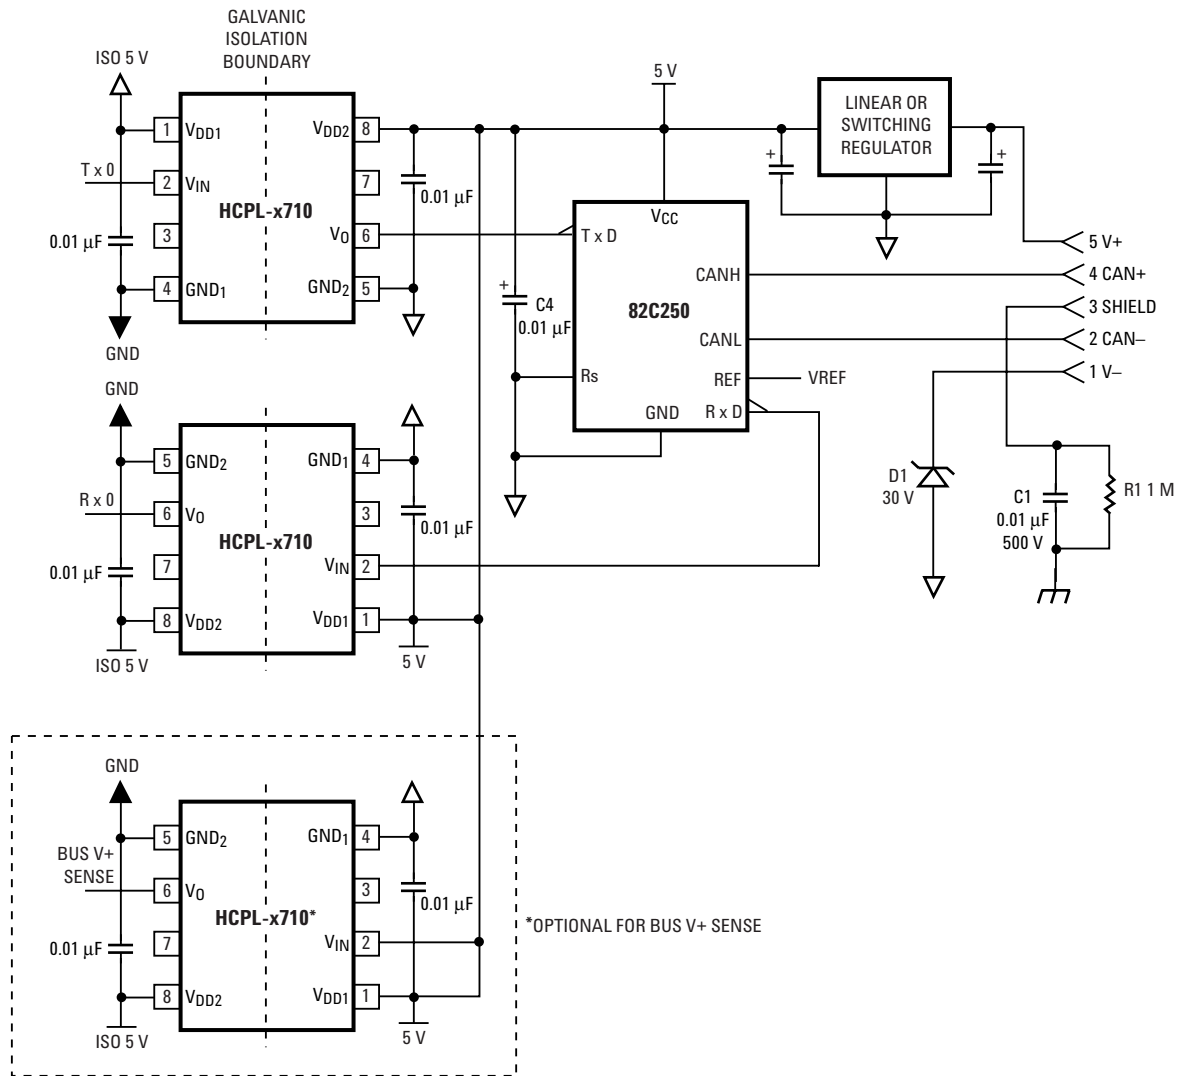

Figure 6. Recommended DeviceNet Application Circuit
A CAN bus is used by DeviceNet physical layer implementation. The recommended DeviceNet application circuit is shown in Figure 6. Since the high-speed CMOS optocouplers HCPL-x710/x72x are fully compatible with CMOS logic level signals, the two optocouplers are connected directly to the CAN transceiver. Two bypass capacitors (with values between 0.01 and 0.1 μF) are required and should be located as close as possible to the input and output power supply pins of the optocoupler. For each capacitor, the total lead length between both ends of the capacitor and the power supply pins should not exceed 20 mm. The bypass capacitors are required because of the high-speed digital nature of the signals inside the optocoupler.
It is suggested that the Bus V+ sense block shown in Figure 6 be implemented. A locally powered node with an unpowered isolated Physical Layer will accumulate errors and become bus-off if it attempts to transmit. The Bus V+ sense signal would be used to change the BOI attribute of the DeviceNet Object to the “auto-reset” (01) value. Refer to DeviceNet Specification Volume